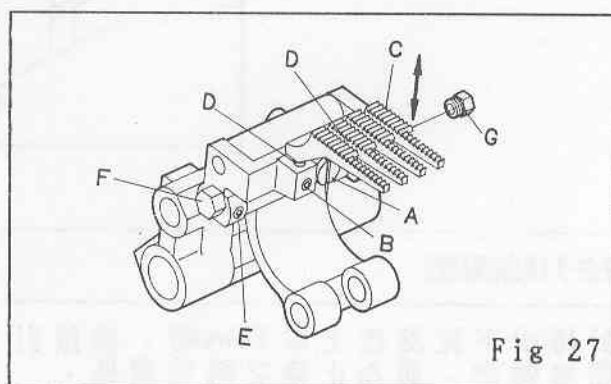

Fig 27
For adjustment: (Fig. 27)
1. Loosen screw (A) on Feed Dog (C)
2. Move Feed Dog (C) up and/or down to meet above requirement then tighten screw (A).
3. Loosen screw (B) and move stop pin (D) upward to the bottom of Feed Dog (E), then tighten screw (B), (Fig. 27).
Holding screw nut (F) firmly and loosen screw (G) then to adjust screw (E) for the teeth surface of Feed Dogs, is paralleled needle plate. (Fig. 27). Then, tighten screw (G).